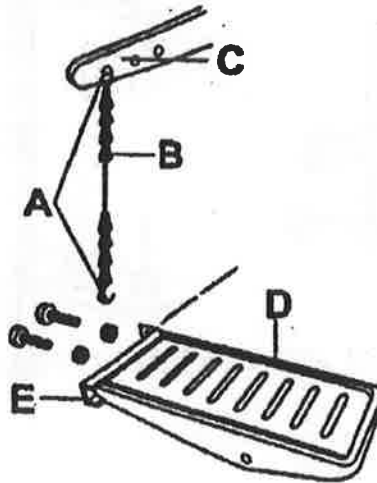

Fig.3
Link the presser foot left chain(A) and presser foot left rod(C) by hook(A). Mounted presser foot pedal(D) on machine stand crosspiece. Adjust board(E) position and fixed all bolt and nut. Observe the Fig.3.